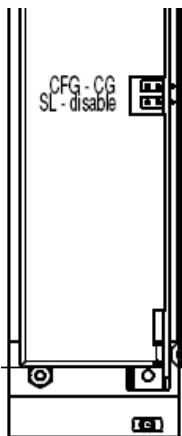

Figure 3: Detailed view of the jumper
<p>Note: EDS modules with Common Floating Ground (CFG) will be delivered with a jumper, which connects the module-GND with the crate-GND. To operate in CFG configuration the jumper (CG-CFG) on the module back must be removed, see Figure 3: Detailed view of the jumper.</p>
A safety loop can be implemented by the safety loop socket (SL) on the front panel and between the SLcontacts (Pin 22 and PIN 30) at the REDEL-connector, if equipped. If the safety loop is active a high voltage generation in any channel is only possible if the safety loop is closed and an external current in a range of 5 to 20 mA of any polarity is driven through the loop. For modules with a REDEL-connector the front panel SL input must be shortened. If the safety loop is opened during the operation the output voltages will be shut off without ramp and the corresponding bits in the “*ModuleStatus*” and “*ModuleEventStatus*” are cancelled (see 10 Appendix, CAN EDCP Programmers-Guide.pdf). After closing the loop again the “*ModuleEventStatus*” has to be reset and the channels have to be switched ON. The loop connectors are potential free, the internal voltage drop is approx. 3 V. By factory setup the safety loop is not active (the corresponding bits are always set). The loop can be activated by removing the jumper “SL-disable” on the rear side of the module, see Figure 3: Detailed view of the jumper.